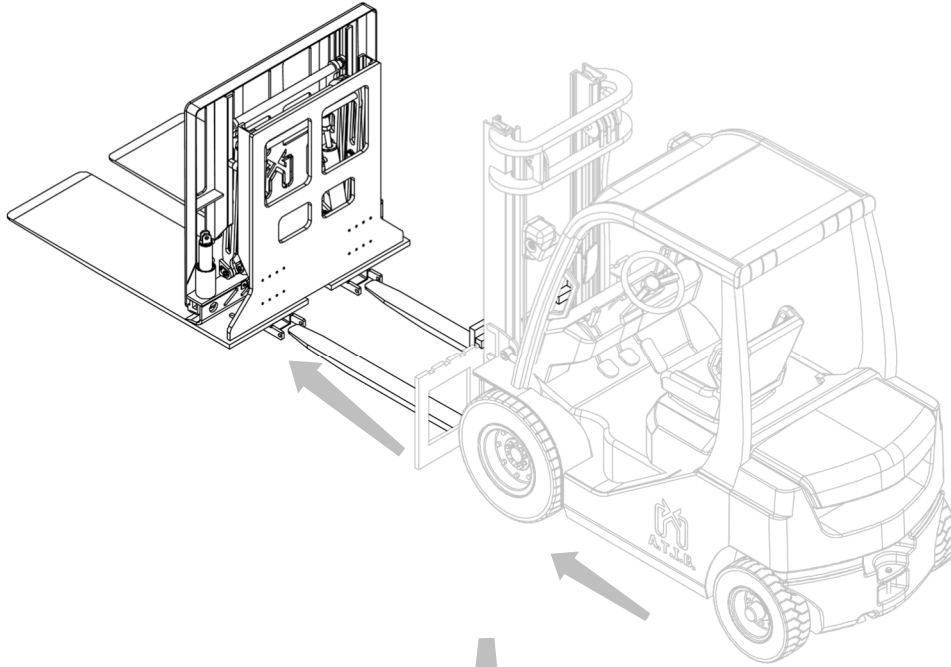

Figure 6
5. Fork the equipment (see *Figure 6* and *Figure 7*).